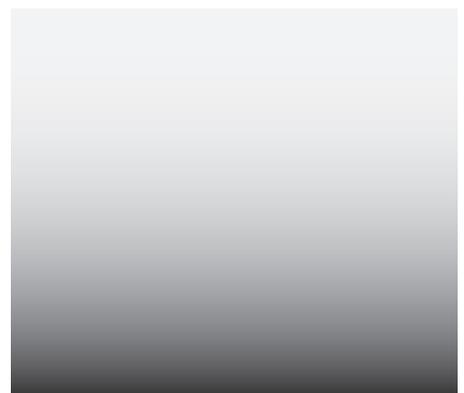

Figure 14
- Start spraying at the bottom of a masked area and gradually fade into the white at the top. See Figure 14. Do not fade abruptly.